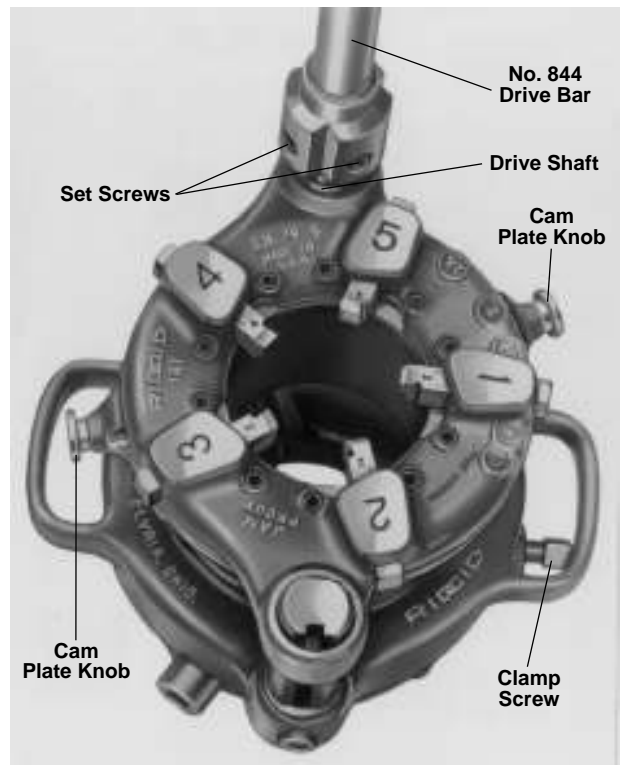

Figure 15 – No. 141 Geared Threader with No. 844 Drive Bar Installed (No. 161 Threader Similar)
2. Pull knobs (Figure 15) of cam plate and rotate cam plate to desired pipe size marking on top of die head. Release knobs when locating pins drop into hole in selector plate.
2. Pull Knobs (*Figure 15*) and rotate cam plate to CD mark on top of die head.
3. Remove worn die set (*Figure 15*) and insert new die set.
1. Place threader on floor or workbench with drive shaft up. Install No. 844 Drive Bar on threader drive shaft and tighten two (2) set screws (*Figure 15*).
7. Using socket wrench, tighten workholder clamp screw (Figure 15) securely.
8. Slip square socket of No. 840A Universal Drive Shaft over square end of threader drive shaft and tighten two (2) set screws.
3. Loosen two (2) set screws and remove universal drive shaft from threader.
4. 141 and 161 – Loosen jaw clamp screw (Figure 15) and turn workholder to OPEN position.